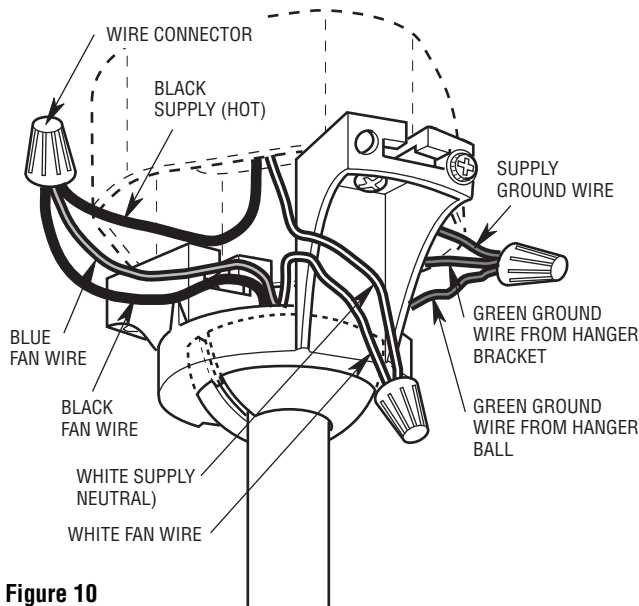

Figure 10
- Connect the green grounding lead from the hanger ball and the green grounding lead from the hanger bracket to the grounding conductor of supply (this may be a bare wire or wire with green colored insulation) (Figure 10). Securely connect wires using wire connectors supplied.
2. Securely connect the fan motor white wire to the supply white (neutral) wire using wire connector supplied (Figure 10). Securely connect the fan motor black wire and blue wire to the supply black (hot) wire using wire connector supplied (Figure 10). After connections have been made, turn leads upward and carefully push leads into the outlet box, with the white and green leads on one side of the outlet box and the black and blue leads on the other side of the outlet box.